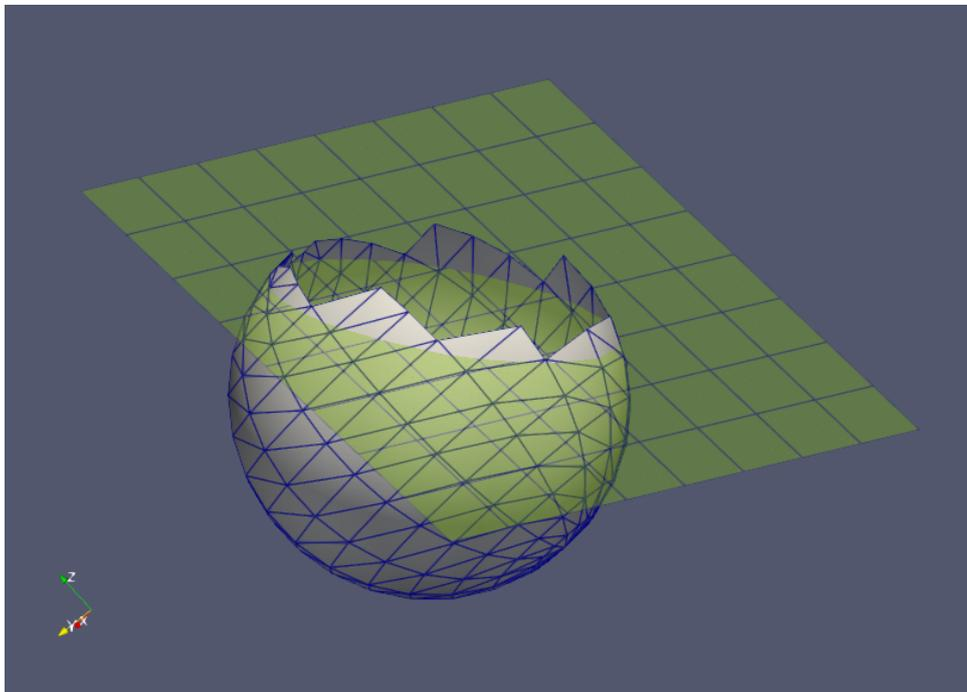

Fig. 2.45: With **Keep cells along the boundary** on, cells that are cut by the clipping plane, are kept in the output
- With the *Keep cells along boundary* option turned on, also all those cells that are cut by the clipping plane will be kept in the output: Fig. 2.45.